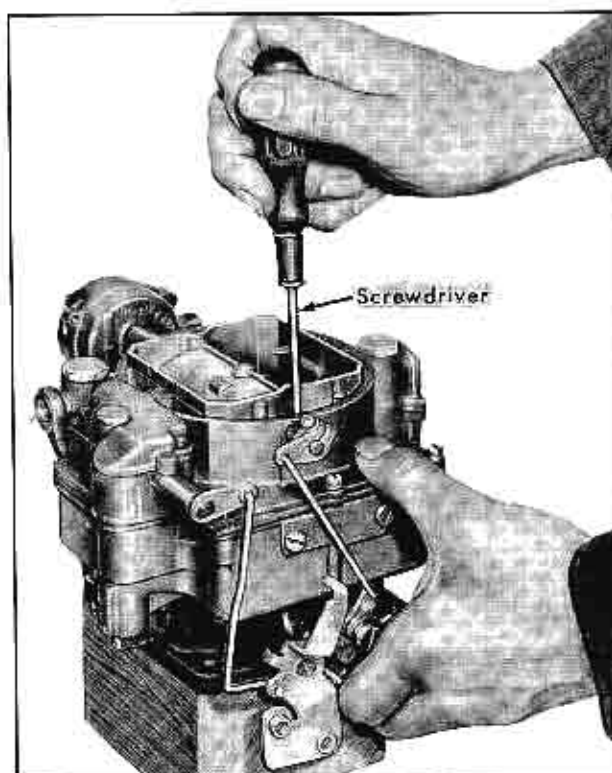

Fig. 12-51 Removing Bowl Cover Screws
6. Remove 16 bowl cover screws and lockwashers as shown in Fig. 12-51. (6 of these are found around the edge of the air horn, 9 around the flange of the bowl cover, and 1 within the dust bowl enclosure.) Extreme care must be taken not to damage the idle vent arm tang on the pump countershaft when removing the inner bowl cover screw and lockwasher within the dust bowl enclosure.